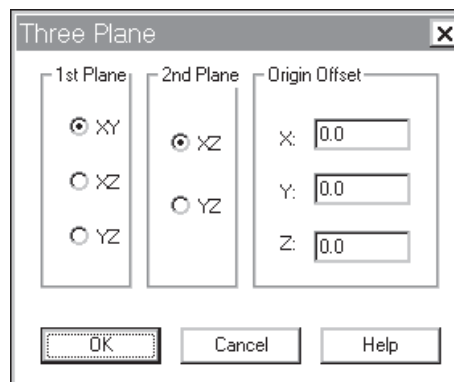

Figure 20 - Three Plane Alignment Dialog Box
3. When done, the Sphere-to-Sphere Statistics dialog box will appear (Figure 20), displaying the pertinent information of the two datum.